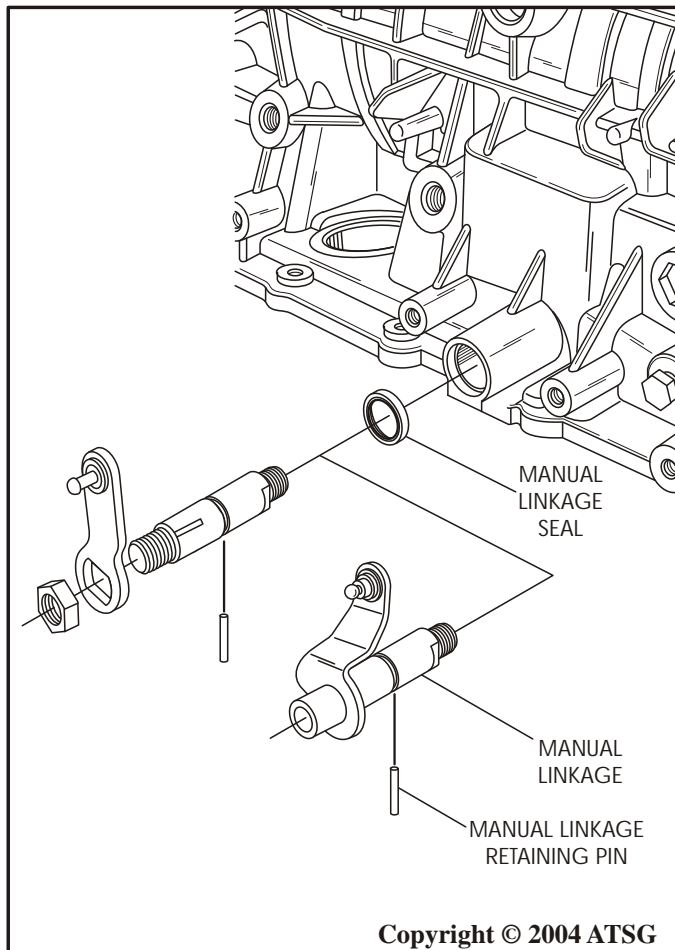

Figure 129
3. Install new manual lever seal into case using the appropriate seal driver (See Figure 129).
4. There are two different styles of manual lever design, as shown in Figure 129.